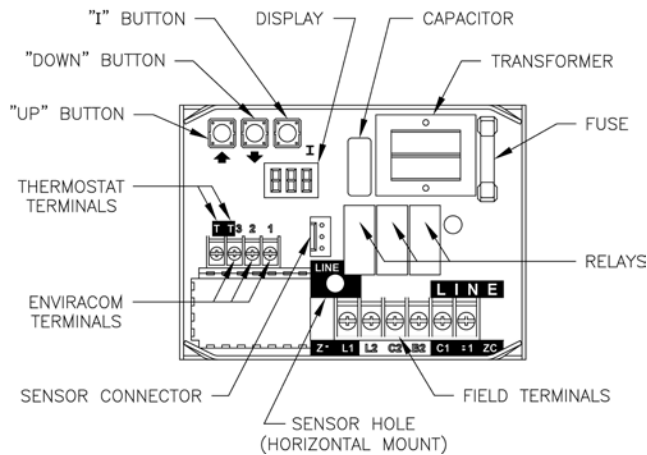

Figure 19: L7248/L7224 Circuit Board Layout - Horizontal Mount
5. ADJUSTING AQUASTAT CONTROLLER SETTINGS. To discourage unauthorized changing of Aquastat settings, a procedure to enter the **ADJUSTMENT** mode is required. To enter the **ADJUSTMENT** mode, press the **UP**, **DOWN**, and **I** buttons (refer to Figure 19) simultaneously for three seconds. Press the **I** button until the feature requiring adjustment is displayed: